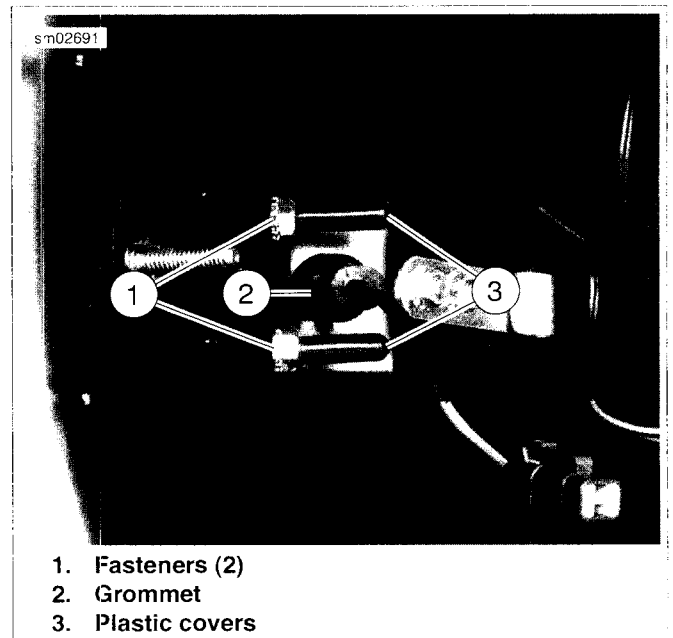

Figure 7-38. Tail Lamp
6. See Figure 7-38. Remove plastic covers (3) from tail lamp threads. Remove fasteners (1).
7. Push grommet (2) to outside of fender.
11. See Figure 7-38. To install tail lamp, route harness through hole in fender and lubricate rubber grommet (2) with alcohol or glass cleaner. Place grommet into position.
12. Place tail lamp into position and install fasteners (1). Tighten fasteners to 60-90 **in-lbs** (6.8-10.2 Nm). Install plastic covers (3).